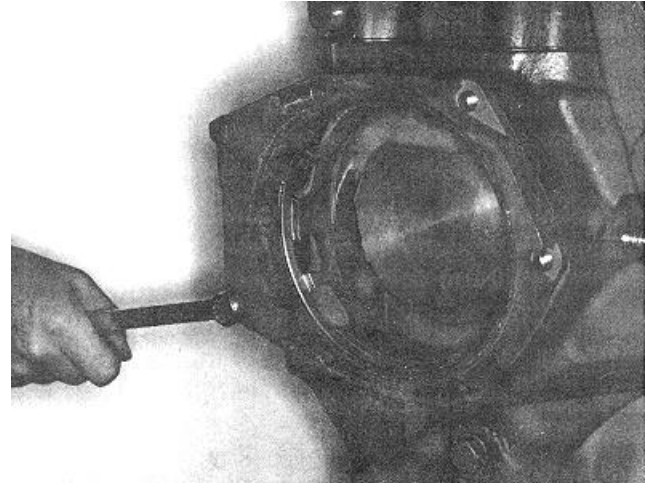

Fig. 14-48 (N114191). Install The Water Pump Support
1. Install the water pump support and a new gasket to the cylinder block, Fig. 14-48. Tighten the capscrews to 30 ft.-lbs. [41 N•m] torque.